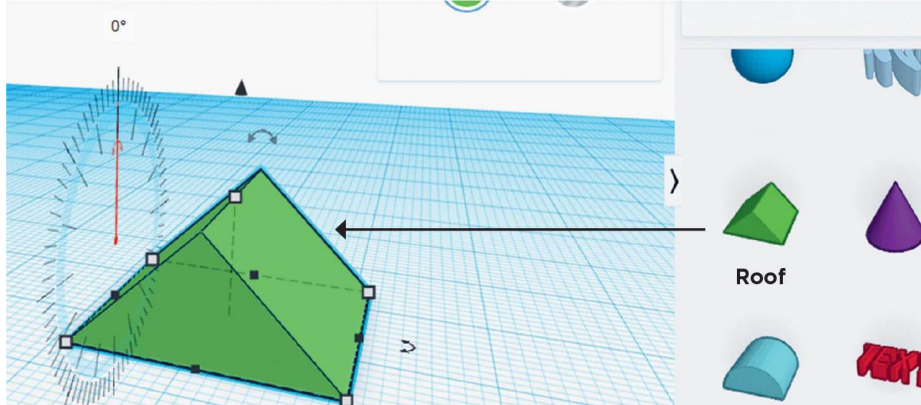

FIG. 2: Drag a **Roof** onto the workplane from the shapes toolbox.
1. Create a small triangle by dragging a **Roof** onto the workplane from the shapes toolbox (fig. 2). The roof is a triangular prism.